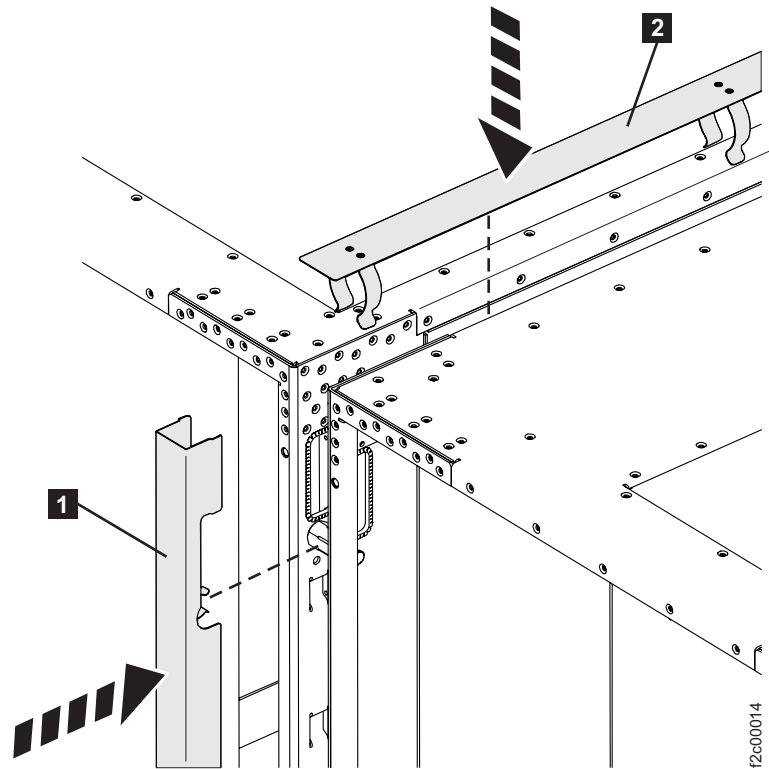

Figure 69. Installing the interrack decorative covers
3. Install each of the two interrack side covers by pushing the cover into place over the interrack spacing studs. Take care not to interfere with any interrack cables. See Figure 69.
4. Install the top interrack cover by pressing it down squarely. The spring clips should hold the cover in place. See Figure 69.